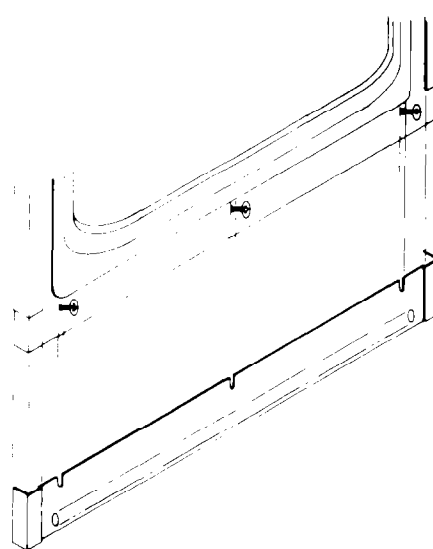

Fig. 3
When oven has been placed into the cabinet, the bottom trim strip is placed on the lower front edge of the front frame. This is done by loosening the three (3) screws at the bottom of the front frame. Slide the trim strip under the screw heads until the strip meets the lower corners of front frame (see Fig. 3). Tighten screws to hold trim to front frame.